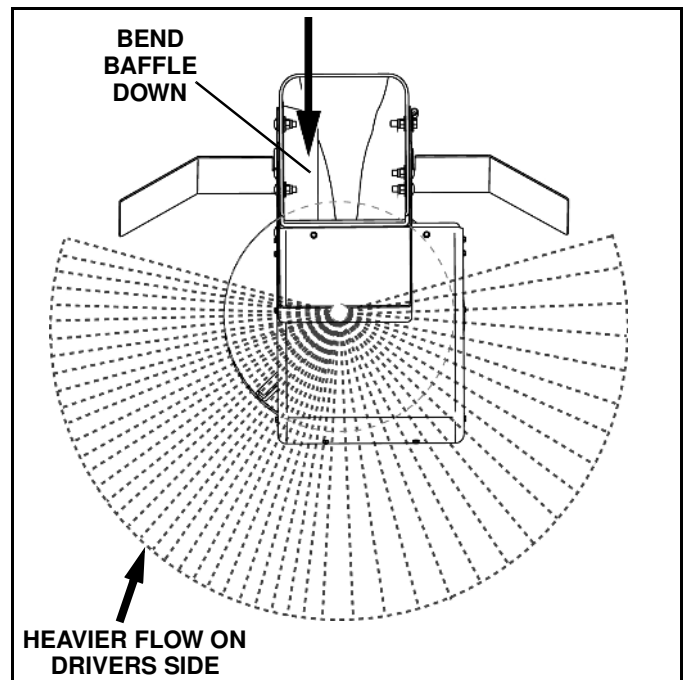

Figure 2-3
• To adjust the flow of the material to the drivers side (DS) of the vehicle, manually bend the internal baffle in the "DOWN" position (See Figure 2-3).